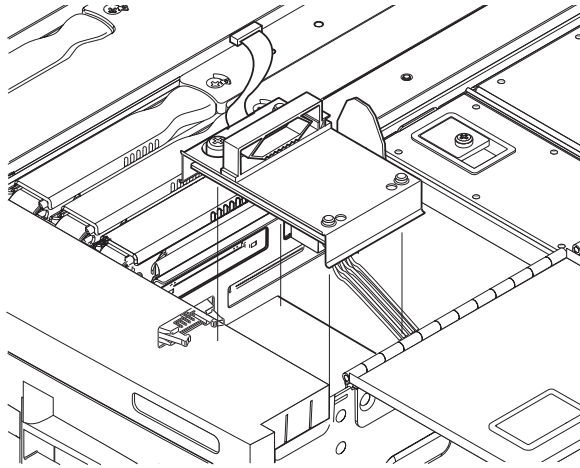

FIGURE 6-21 Removing the SCC Reader
11. Lift the reader off the locating pins (FIGURE 6-21). Place it on an ESD mat.
4. Place the reader over the locating pins. Press firmly to seat it (FIGURE 6-21).